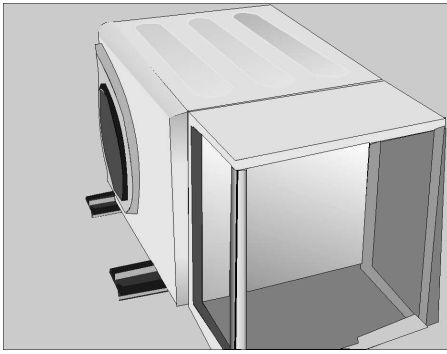

Figure 9
3. Place the top of the pedestal against the appliance bottom. Ensure the pedestal drawer opening and appliance door face the same direction (see **Figure 9**).